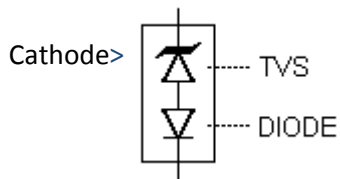
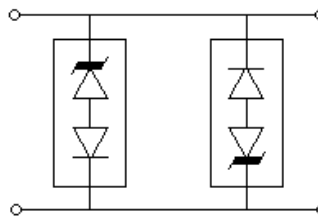

FIGURE 4
FIGURE 5
The TVS low capacitance device configuration described in this data sheet is shown in Figure 4 involving a TVS and a unique diode in series and opposite direction. For bidirectional low capacitance TVS applications, use two (2) low capacitance TVS devices as described in this data sheet in anti-parallel as shown in Figure 5. This will result in twice the capacitance of Figure 4 specified in this data sheet.